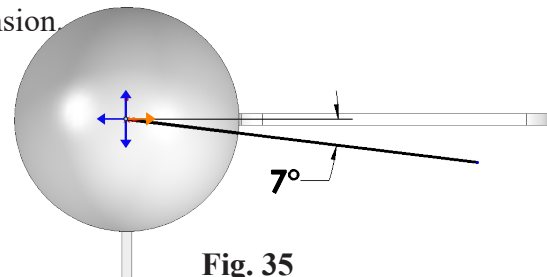

Fig. 35
Step 6. Dimension **angle 7**, **Fig. 35**. To dimension angle to imaginary line, click line and Origin , then click the **right horizontal crosshair**  and place dimension.